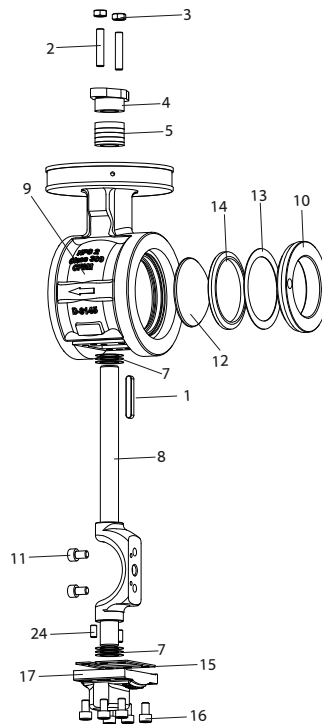

Fig.6-5
1. Undo the screws (→ Fig.6-5/20) and remove the cover plate (→ Fig.6-5/10).
2. Remove the spring washer (→ Fig.6-5/13), support ring (→ Fig.6-5/14 a) and seat (→ Fig.6-5/14).